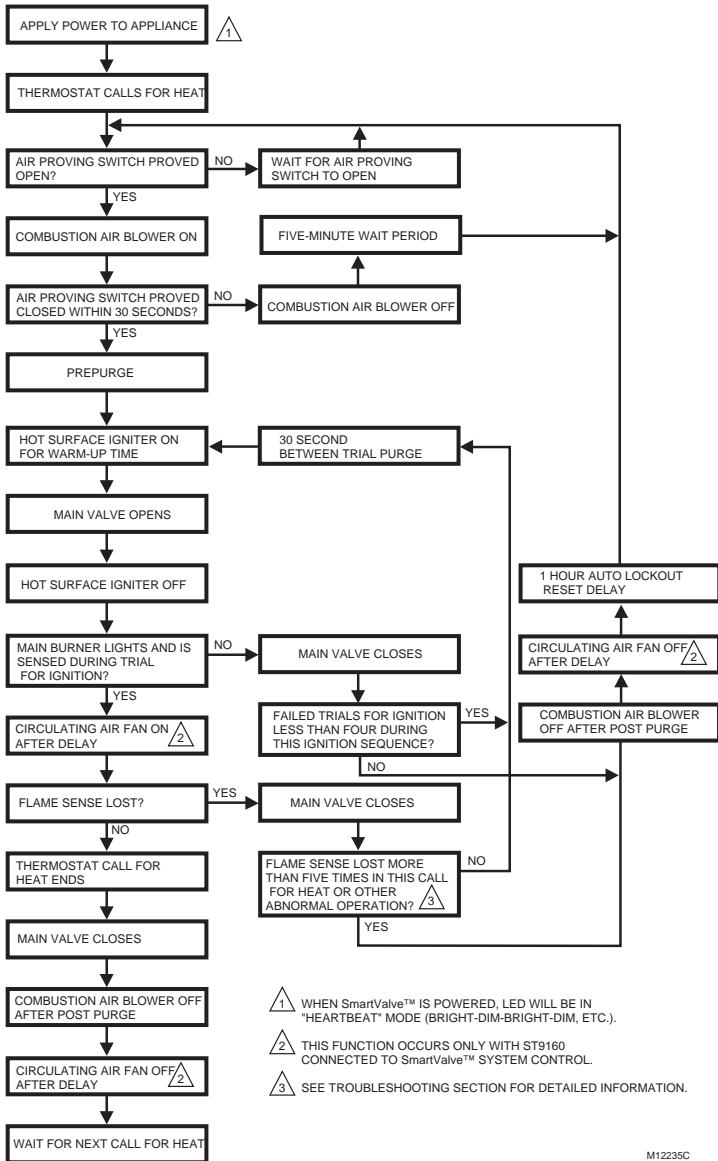

Fig. 11. SV9410/SV9420; SV9510/SV9520; SV9610/SV9620 sequence of operation.
2. Follow the sequence of operation as shown in Fig. 11.
5. Observe the ignition sequence; comparing it to the Sequence of Operation shown in Fig. 11. Allow the new ignition sequence to proceed until appliance lights or an abnormal or unexpected event is observed. See next section.
6. Observe the appliance operation, comparing it to the Sequence of Operation shown in Fig. 11. Allow the ignition sequence to proceed until the appliance lights or an abnormal or unexpected event is observed.